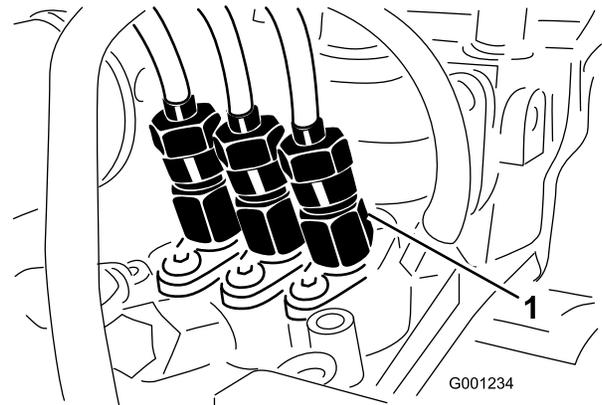

Figure 52
1. Loosen the pipe connection to the No. 1 injector nozzle and holder assembly at the injection pump (Figure 52).